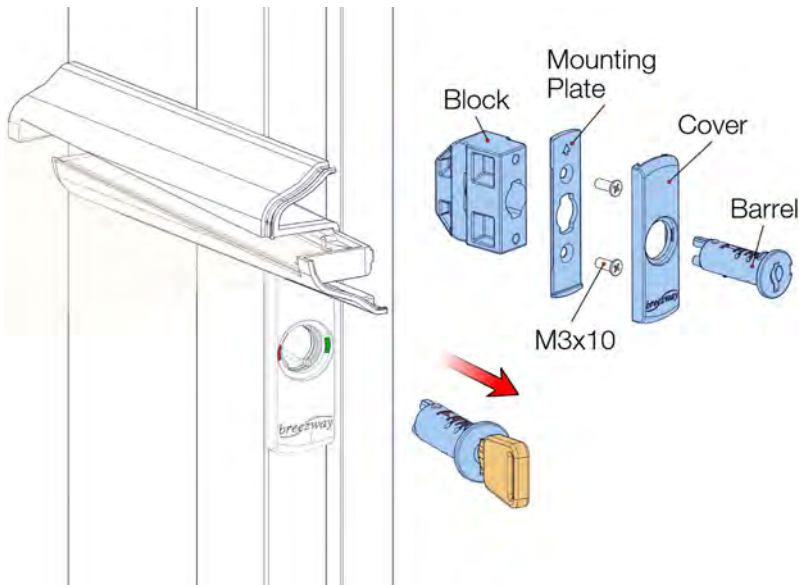

Fig. 23.4.1.3.1-1.1
2. Withdraw the barrel and the Assembly Key together. *Refer to Figure 23.4.1.3.1-1.1.*